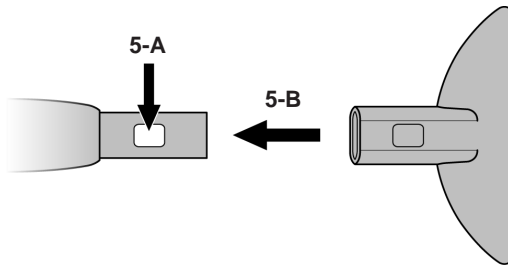

FIGURE 5
2. Press down on blue lock/release button (FIGURE 5-A). While continuing to hold button down, slide Fabric Nozzle onto Steam Nozzle (FIGURE 5-B). Push Fabric Nozzle over button, and continue pushing until button snaps through rectangular hole.